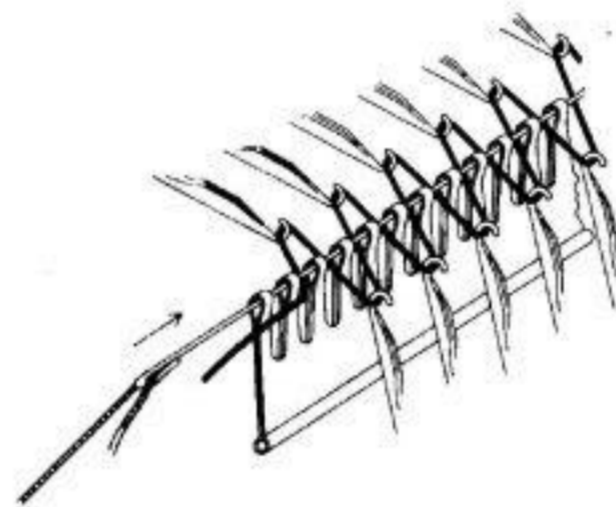

Fig. 40
Replace the wire through the teeth of the cast-on comb and, using a divider thread belonging to the main machine accessories, hook it onto the hooked end of the wire and again withdraw the wire so that a strand of thread will replace with the wire. (Fig. 40)
5. Withdraw the wire from a cast-on comb and push the comb upwards between the two needle beds until the teeth pass through the zig zag mesh formed by the yarn. Replace the wire through the teeth of the cast-on comb and, using a divider thread, hook it onto the hooked end of the wire and again withdraw the wire so that a strand of thread will now replace with the wire—see Fig. 40.